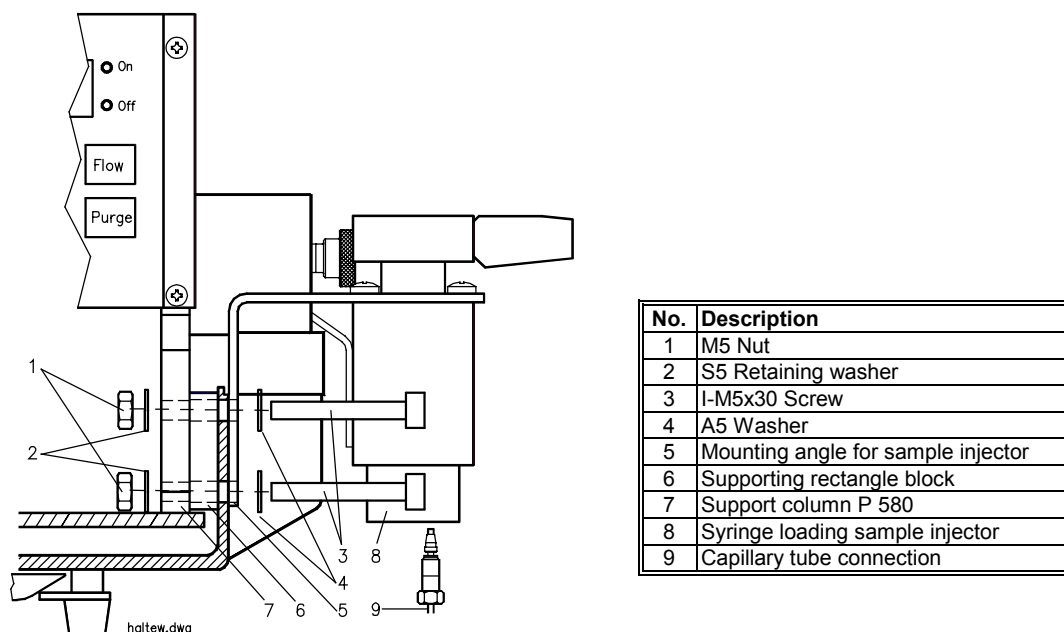

Fig. 15: Installing the optional syringe loading sample injector
- Fasten the mounting angle for the syringe loading sample injector with the two I-M5x30 screws to the housing. Use the supplied washers on either side, as shown in fig. 15. To tighten, use the supplied hex key (size 4).
⚠ Important: Use the Rheodyne fitting set to fasten the capillary tube to the sample injection valve (see Fig. 15)!